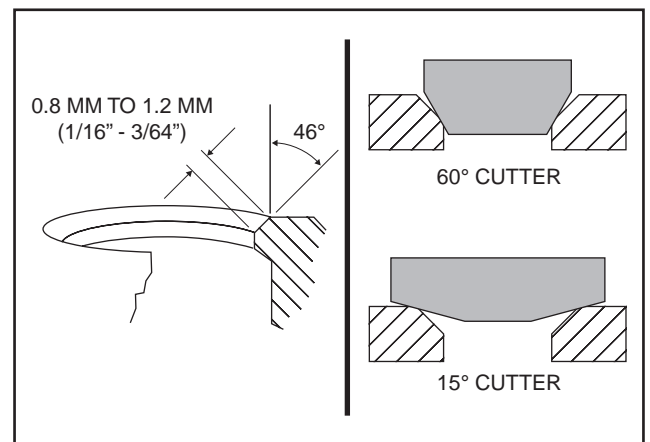

Figure 5-9. Valve Seat Dimensions
1. Valve seats may be reconditioned using a valve seat cutter. If valve seat is wider than dimension shown in Figure 5-9, a narrowing cutter should be used to ensure that contact area of valve seat is centered on face of valve (see Figure 5-10).
- a. Use a 60° cutter to narrow seat from bottom and a 15° cutter to narrow seat from top (Figure 5-9).